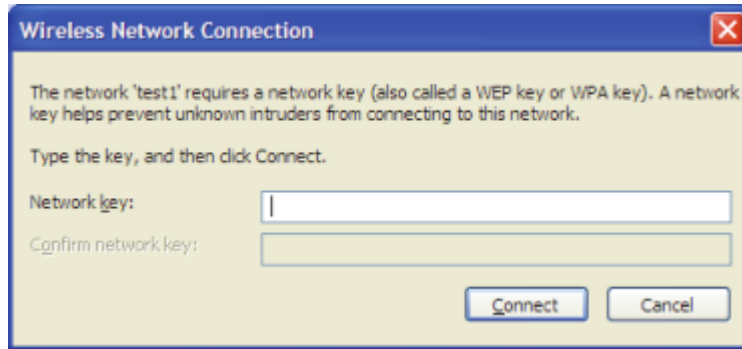

Figure 10
3. The Wireless Network Connection box will appear. Enter the Network Key and click Connect.(Figure 10)